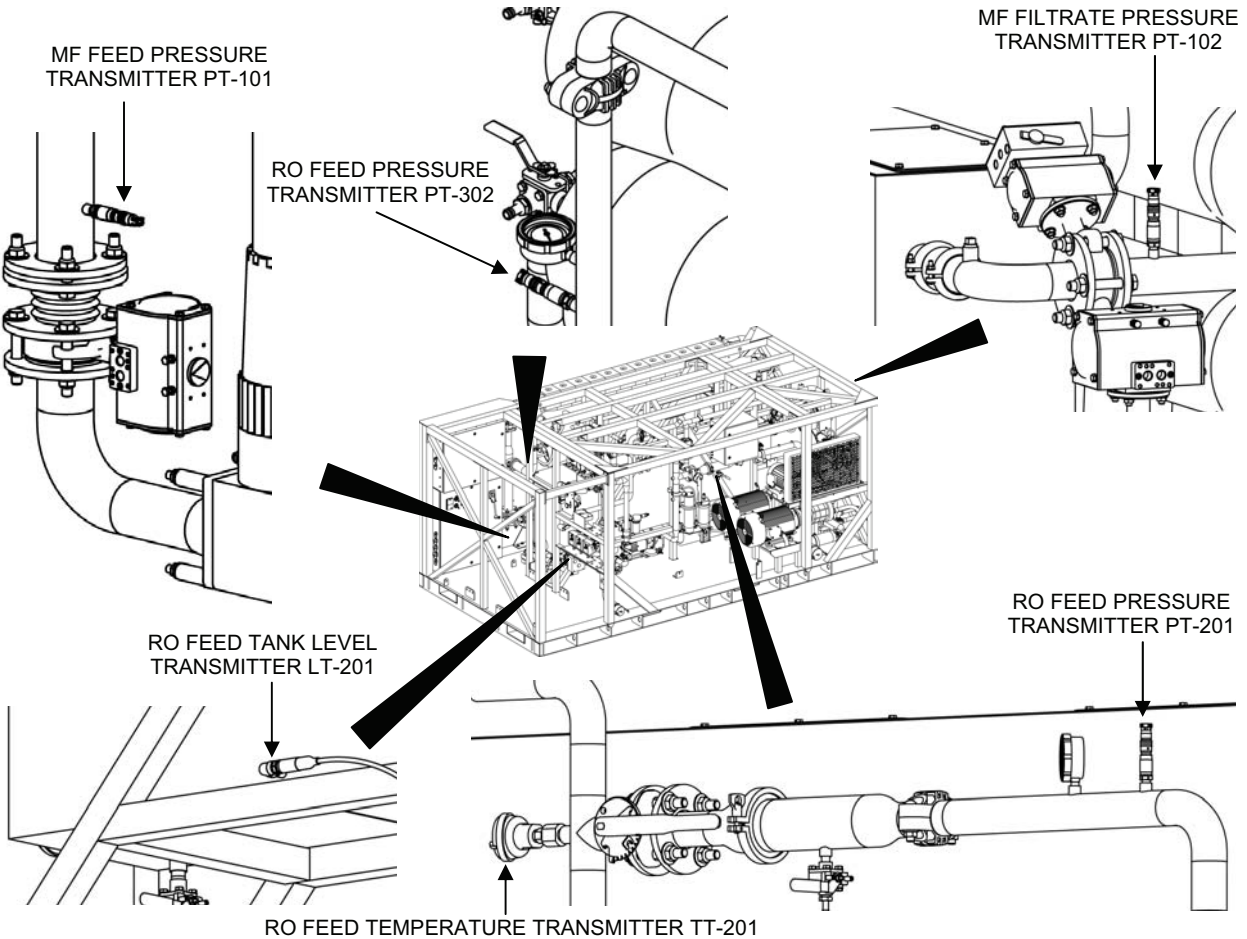

Figure 12. Location of MF and RO System Transmitters.
2. Remove the transmitter from the MF or RO system as follows (see Figure 12 for the location of the MF and RO system transmitters):